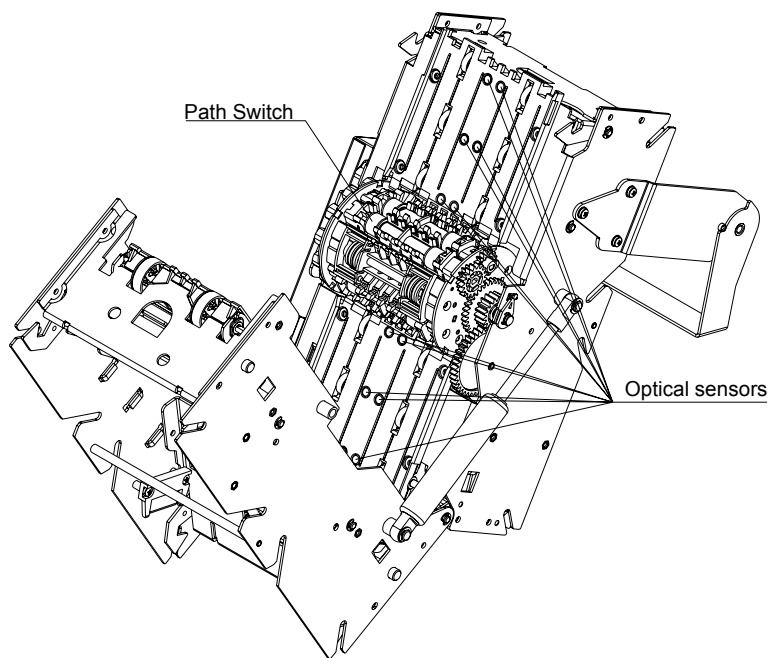

Fig. 6
- Open the chassis (please see Fig. 6)